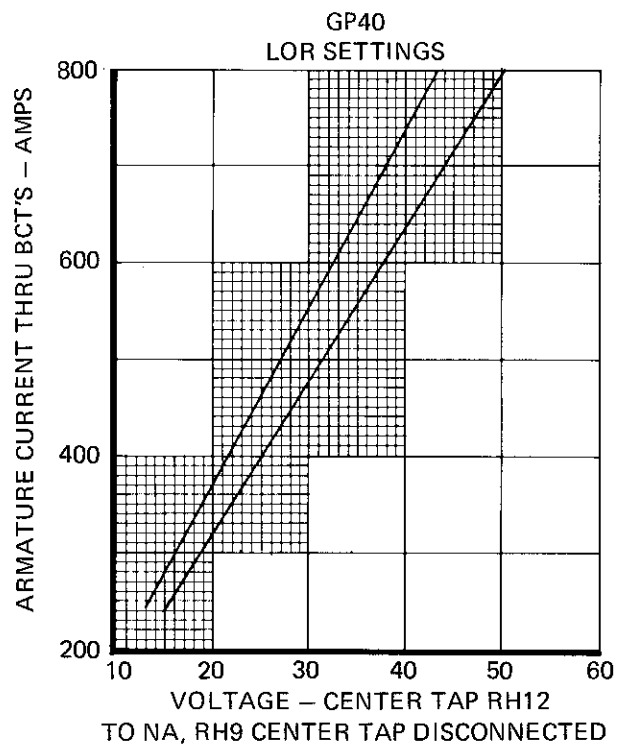

Fig. 2
8. Obtain 500 amps through the BCT's and adjust RH12 for 29 ± 2 volts. Use Fig. 2 as reference. Reduce throttle to idle when complete.